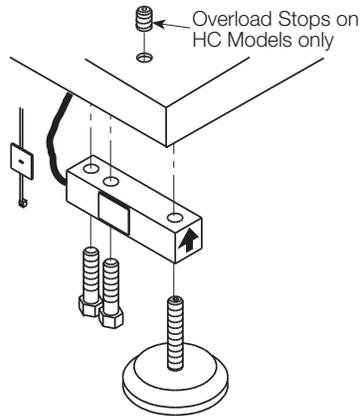

Figure 4-2. Load Cell Replacement.
5. Position the load cell with the alignment arrows pointed up toward the scale deck and loosely install the hex head cap screws provided, as shown in Figure 4-2 on page 13.